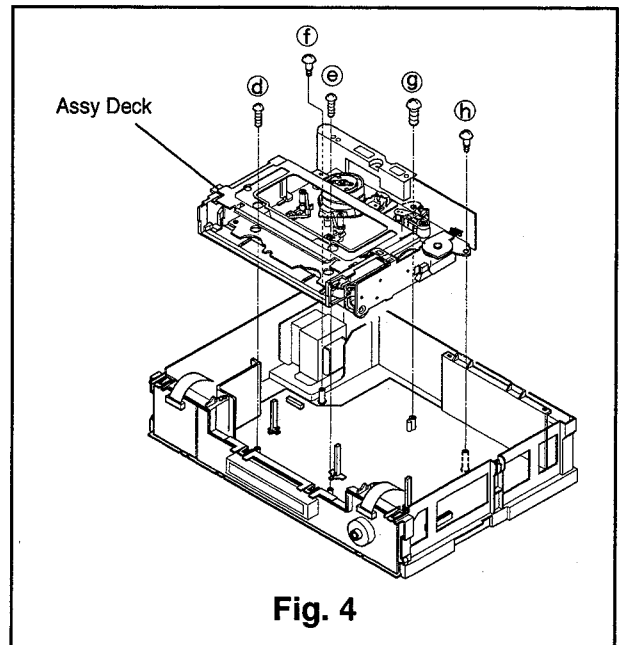

Fig. 4
- ③ Remove the five screws (d~h) holding the Assy Deck, shown in Fig. 4, and disconnect the connectors **MR**, **ML**, **MM** and **ME**.